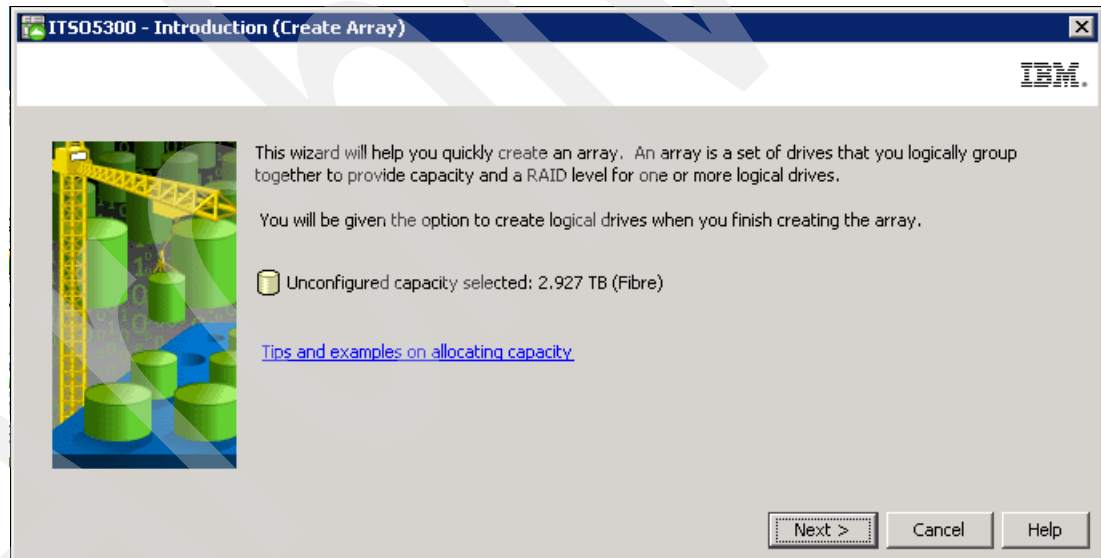

Figure 3-7 Create Logical Drive
1. Right-click the unconfigured capacity in the Subsystem Management window and select **Create Logical Drive**. This action starts the wizard for creating the logical drives. The first window of the wizard is an introduction to the process, as shown in Figure 3-7. Read the introduction and then click **Next** in order to proceed. We present the best practices during the array creation process.